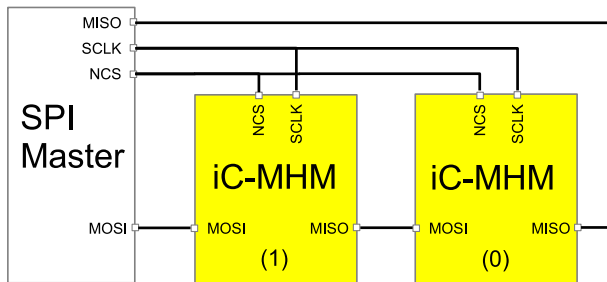
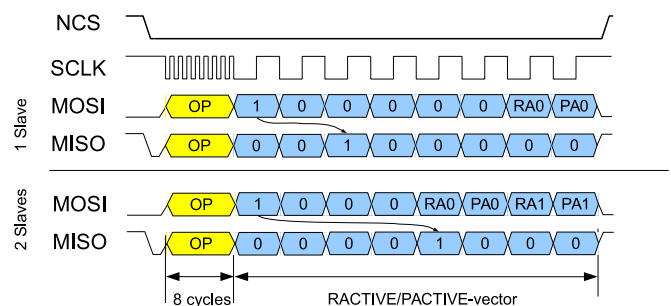

Figure 16: Daisy Chain Configuration with 2 Devices
Figure 24: Set ACTIVATE: RACTIVE/PACTIVE (one device)
In the default configuration, the interface is switched from BiSS to SPI with a low level at NCS. Daisy chain is used to connect multiple devices to one controller (see Figure 16)
**Note:** If the devices are connected in a chain (see Figure 16), using this command the master can determine the number of register and sensor data channels connected. To achieve this the master can transmit a high level after the opcode, which is repeated at MISO after the number of register/sensor data channels (see Figure 24).